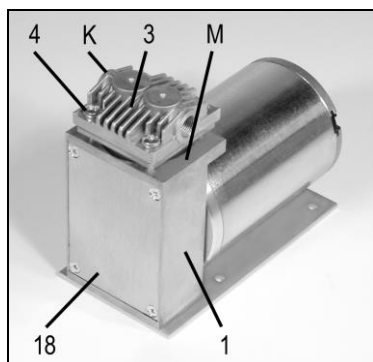
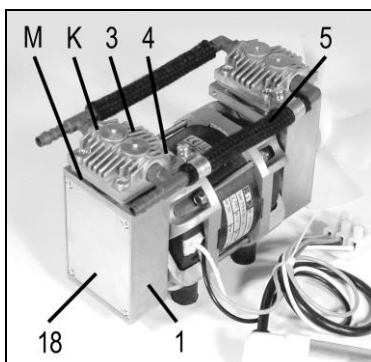

Fig. 5:
Fig. 6:
The position numbers in the following text refer to figs. 5 to 8.
- Make a mark (**M**) on the ribbed head (**3**), intermediate plate (**2**), and housing (**1**) with a felt-tip pen (see **M** in figures 5 and 6). This helps avoid incorrect assembly later.
6. Place the "head assembly" on the pump housing (**1**) - as a guide to orientation see fig. 5 (single head models) or fig. 6 (twin head models). Reference point is the compression symbol (indicated with a **K** in the diagrams), or the mark (**M**).
If, after changing the piston seal, the pump produces no flow, check the position and orientation of gasket (**6**), valve plate (**7**), intermediate plate (**2**) and valve plate (**8**). See fig. 5,6 and 8.
- check the position and orientation of gasket (6), valve plate (7), intermediate plate (2) and valve plate (8). See fig. 5, 6 and 8.